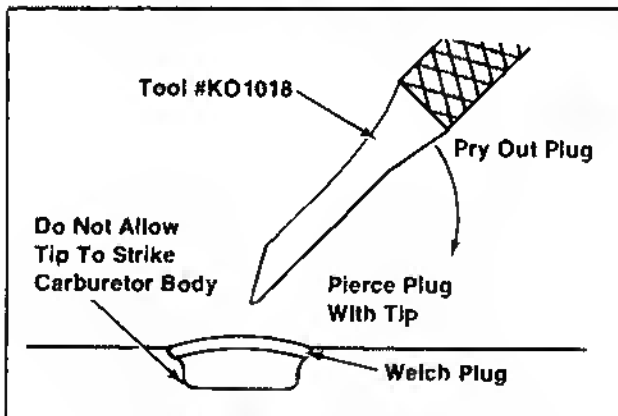

Figure 6B-6. Removing Welch Plugs.
5. In order to clean the "off-idle" ports and the bowl vent channel thoroughly, the welch plugs covering these areas must be removed. Use tool No. KO1018 and the following procedure to remove the welch plugs. Refer to Figure 6B-6.